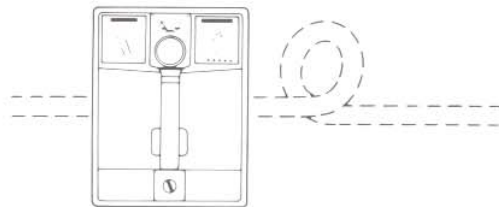

Fig. 27 — Identifying a Slack Loop or T-Splice
- 2) Hold the receiver so the handle is PERPENDICULAR (across) the cable path and the tone from the receiver is minimum (Fig. 27).